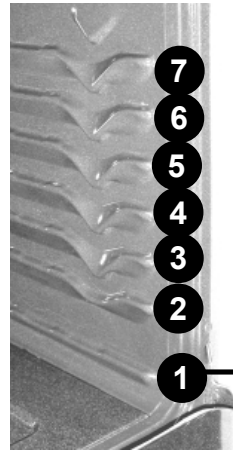

Fig. 1
Use the broil feature to cook meats that require direct exposure to radiant heat for optimum broiling results. When broiling always remember to arrange the oven racks while oven is still cool. Position the rack as suggested in the **broil settings table** (See Figs. 1 & 3).
6. Place the broiler pan and insert on the desired oven rack (Refer to Fig. 1).